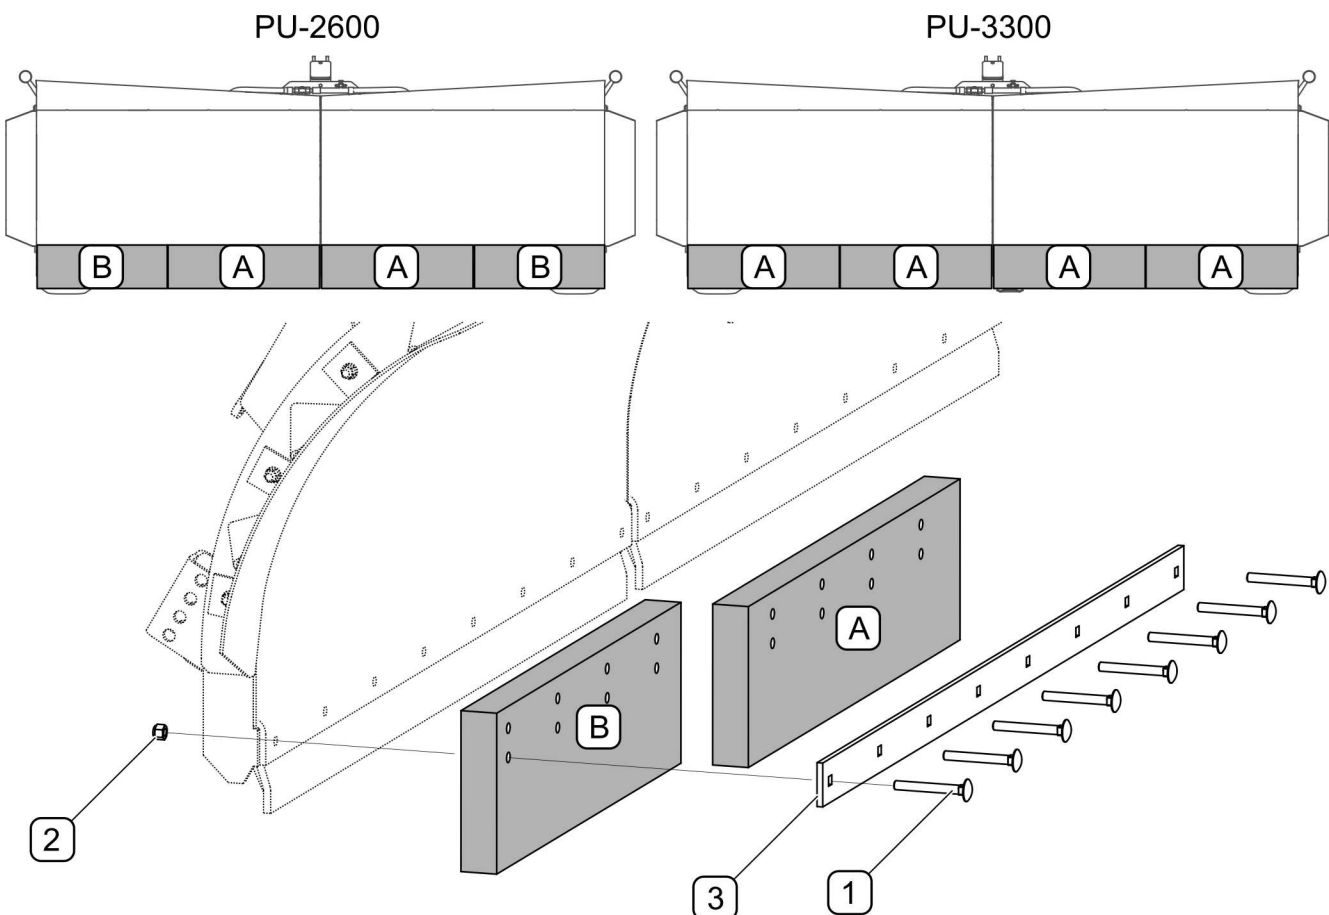

FIGURE 5.4 Replacing rubber collecting strip
Rubber collecting strip (FIGURE 5.4) consists of two segments (A, B). To remove the segments of the strip, unscrew the nuts (2), remove bolts (1) and remove the clamp strip (3).